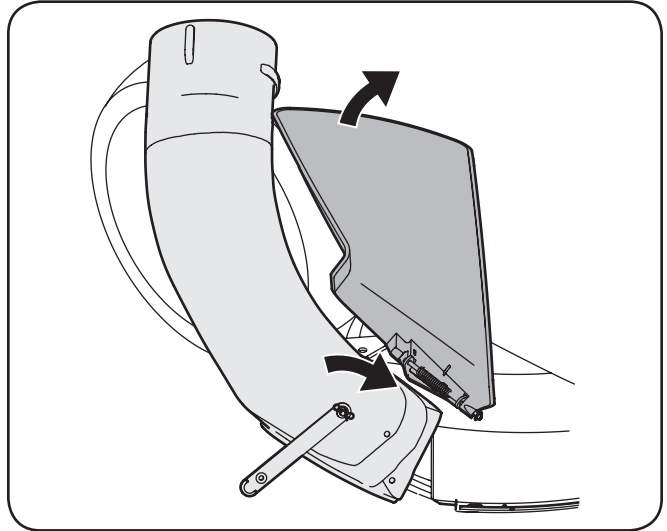

Figure 4-22
11. With the tractor's discharge chute raised up and held open, install the chute elbow over the chute opening by placing the top, rear edge of the chute elbow over the rear of the deck opening, then pivoting the chute elbow down and over the chute opening. See Figure 4-22.